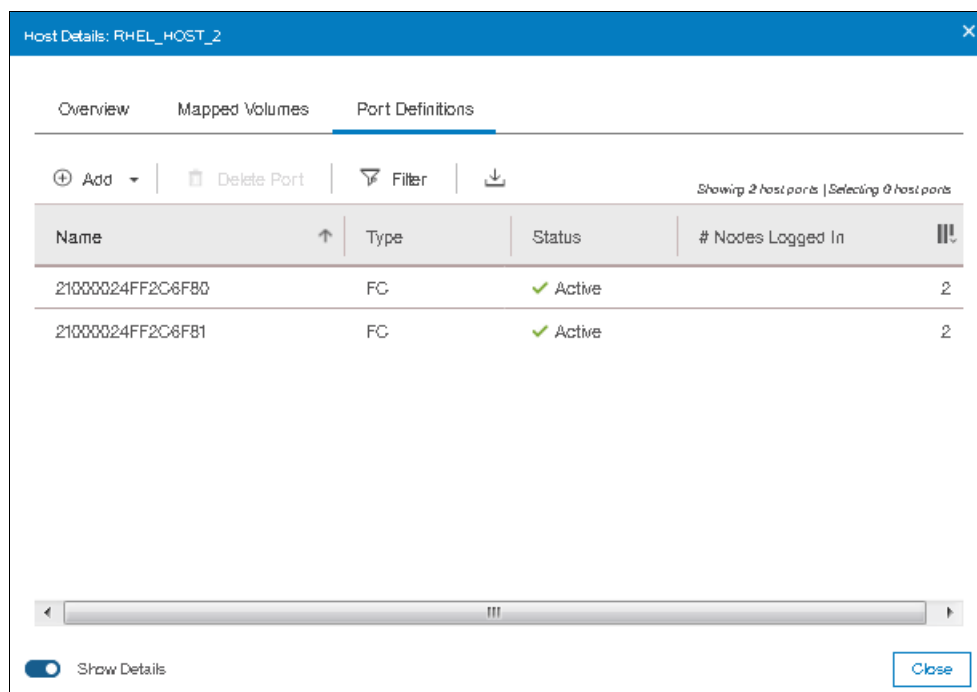

Figure 8-37 Selecting the port to delete
1. Select the port that you want to delete as shown in Figure 8-37.